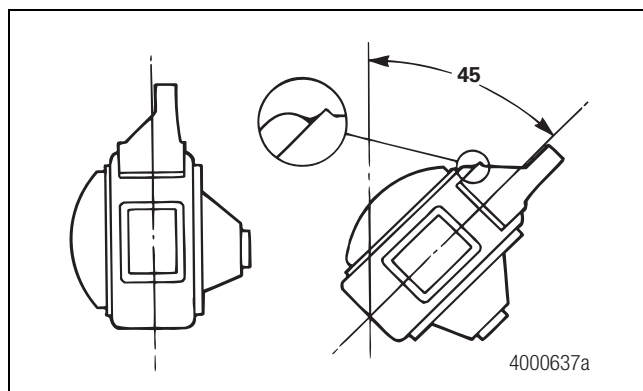

Figure 3.16
3. Position the housing for a flat weld. The housing must be at 45 degrees for front and rear faces. Figure 3.16.